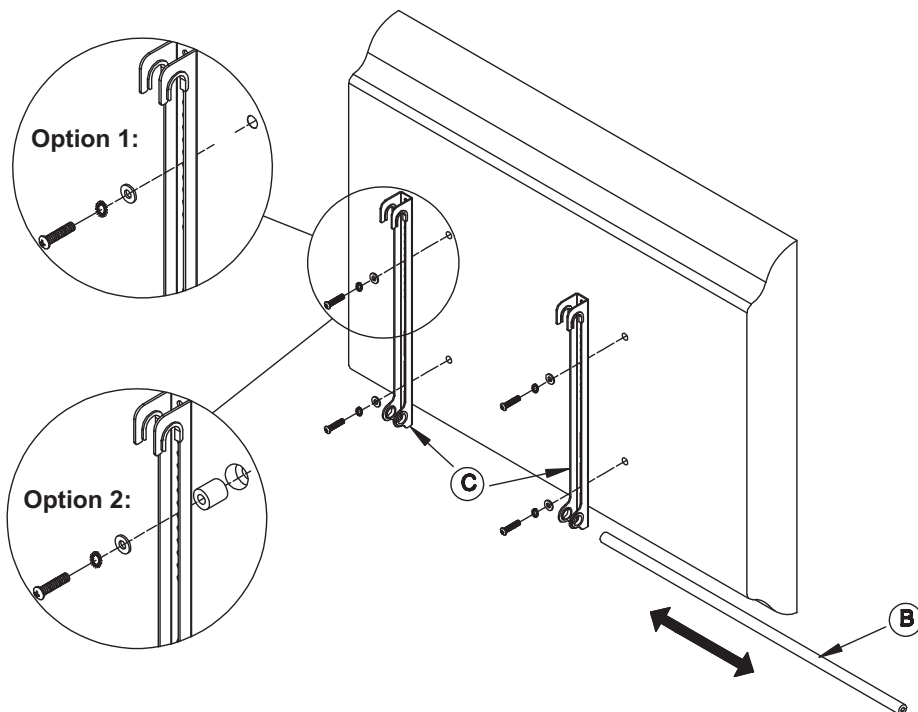

Figure 8 - Attach TV to Bracket
Attach the TV to the TV Bracket Connection (Figure 8). First, remove the round tube (B) from the TV Bracket Connection. Next, choose the correct screws (the ones that work with your TV) from the supplied hardware to attach the two brackets (C) to the back of the TV. Make sure the brackets are positioned with the tube hole at the bottom of the TV.